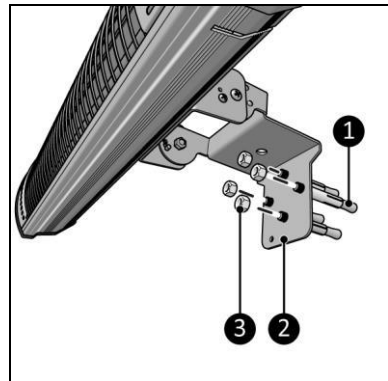
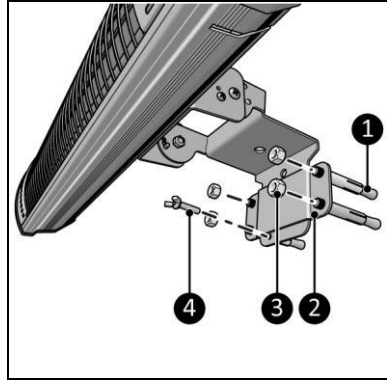

Figure 9
Figure 10
- Fixed to the wall (Figure 9).
- Removable from the wall (Figure 10).
1. Attach the suspension bracket (Figure 9, pos. 2) level on the wall using the four anchor bolts (Figure 9, pos. 1) and the four nuts (Figure 9, pos. 3).
1. Attach the wall bracket (Figure 10, pos. 2) level on the wall using the four anchor bolts (Figure 10, pos. 1) and the four nuts (Figure 10, pos. 3).
2. Place the suspension bracket (Figure 9, pos. 2) behind the wall bracket (Figure 10, pos. 2).
3. Fix the wing bolt (Figure 10, pos. 4) in the suspension bracket (Figure 9, pos. 2).